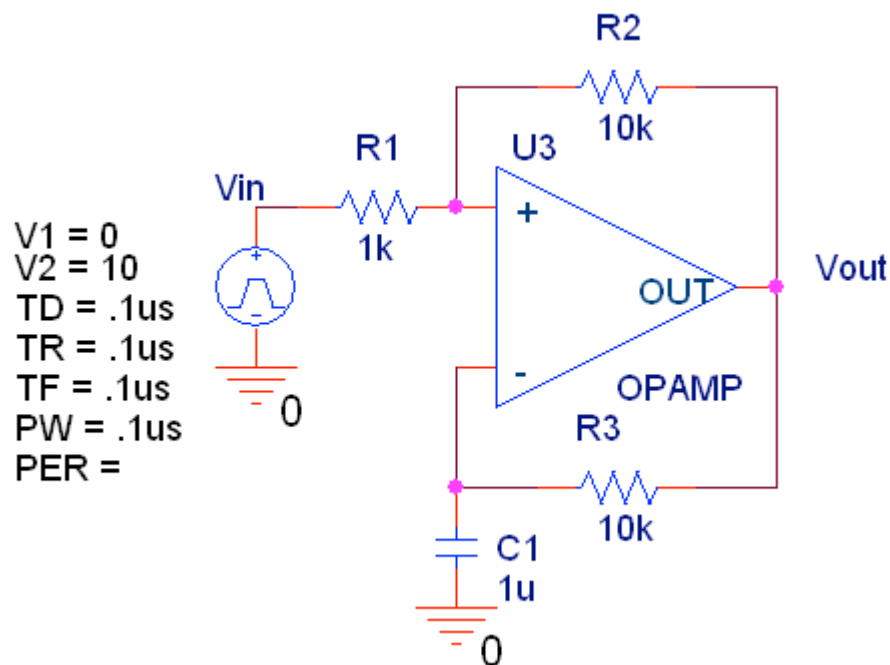

Figure 1: Unstable Multivibrator
1. Simulate the unstable multivibrator shown in Figure 1. The voltage source in the diagram is the PSpice part “VPULSE,” a voltage pulse needed to start the circuit oscillating. Note that when you actually build the circuit in lab, noise in the circuit will be enough to start oscillations. To view the output, set up a transient response with a runtime of about 15ms and a maximum step size (“step ceiling” in PSpice 9.1) of 5 μ s.